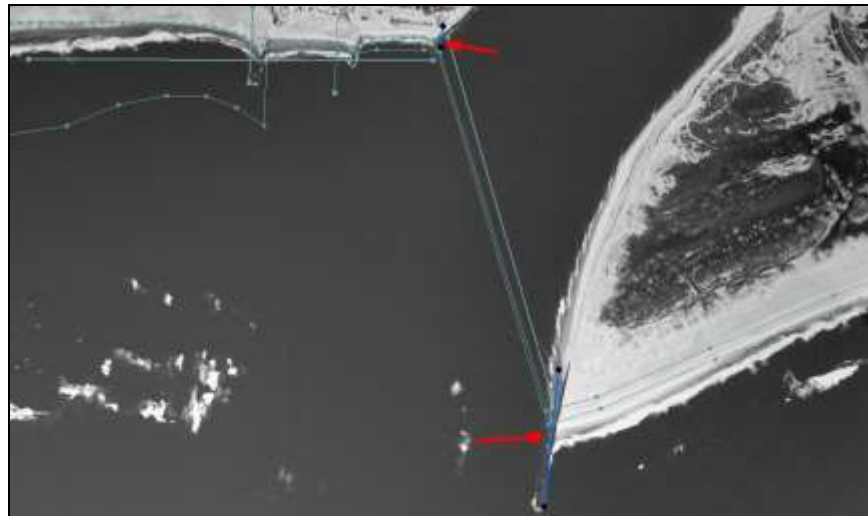

Figure 3 Jones Inlet with the two jetties indicated
3. Using the **Select Feature Arc**  tool, double-click on the jetty to the west (the one at the top of Figure 3) to bring up the *GenCade Arc Attributes* dialog.
11. Using the **Select Feature Arc**  tool, double-click on the east jetty (the one at the bottom of Figure 3).